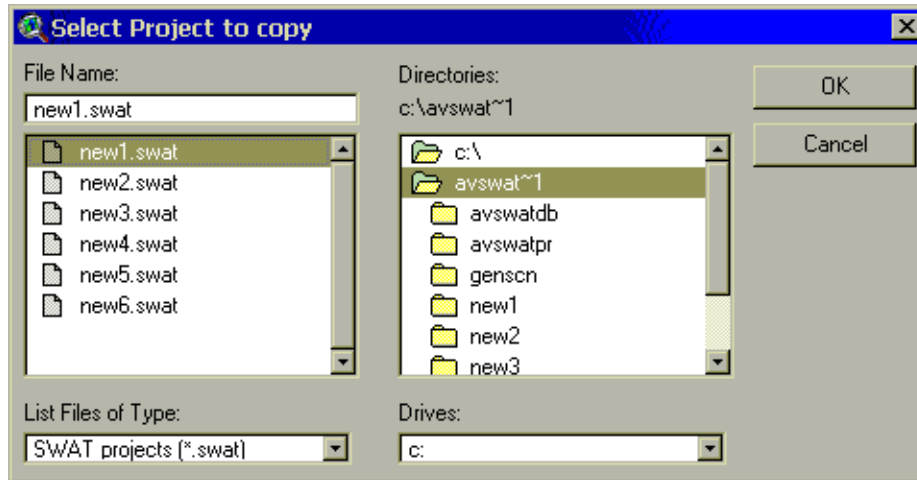

Figure 4.5
2. A browser will be displayed (Figure 4.5). If necessary, move to the proper directory. Type or click the name of the SWAT project log file (**.swat**) belonging to the project you wish to copy.